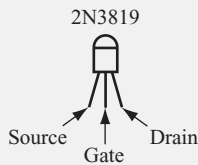

FIGURE 4.23
- ☐ One 2N3819 JFET (Figure 4.23 shows the pinout for the 2N3819.)